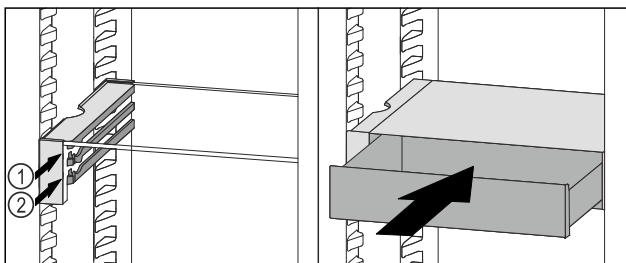

Fig. 90
- Place the VarioSafe drawer behind the stoppers on desired rib Fig. 90 (1) or Fig. 90 (2).